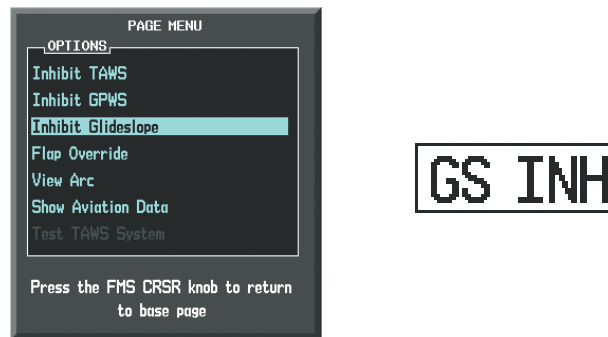

Figure 6-105 TAWS-A Page Menu and Glideslope Alerting Inhibited Annunciation
- 1) Press the **MENU** Key. (Figure 6-105)